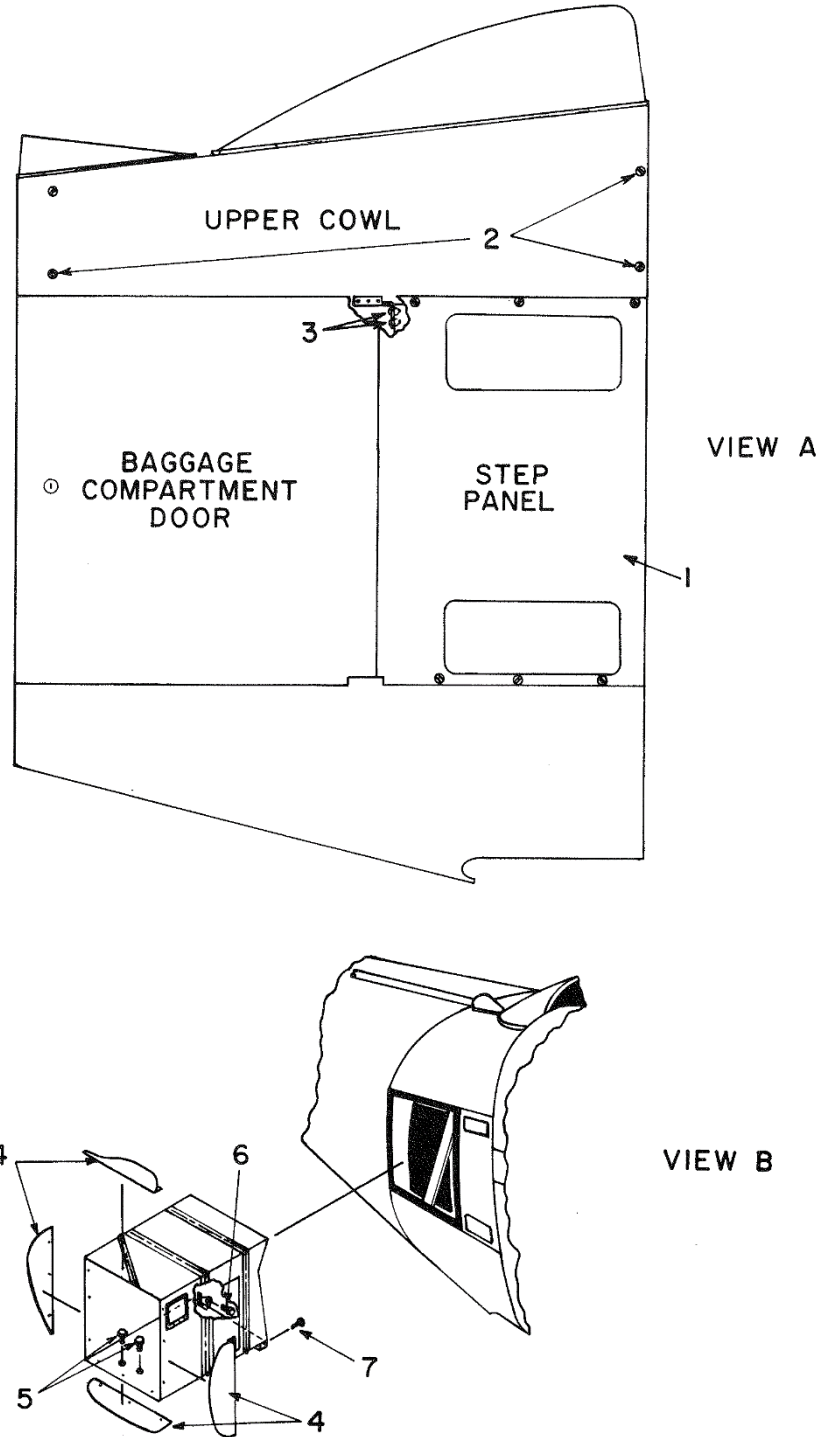

Figure 8-13. Baggage Compartment Installation
A. Baggage Compartment Removal (See Figure 8-13)
1. Remove baggage compartment door as follows: (See Figure 8-13, View A)
- (a) Remove panel (1) from kick-in steps.
- (b) Release fastener screws (2) on upper cowling.
- (c) Remove the two screws (3), washers, and nuts from upper hinge pin post at top right corner of baggage compartment.
3. Remove sheet metal flanges (4) from the right side, outboard edges of the baggage compartment.
D. Baggage Compartment Installation (See Figure 8-13)
2. Install bolt (6) in lower left aft corner of baggage compartment. Torque bolt and safety using .032 safety wire.
3. Install bolt (7) through mount strap and baggage compartment at lower left forward corner. Torque bolt.
4. Install screws (5) securing front of baggage compartment to pylon.
5. Install the sheet metal flanges (4) to front edges of baggage compartment and secure with screws.